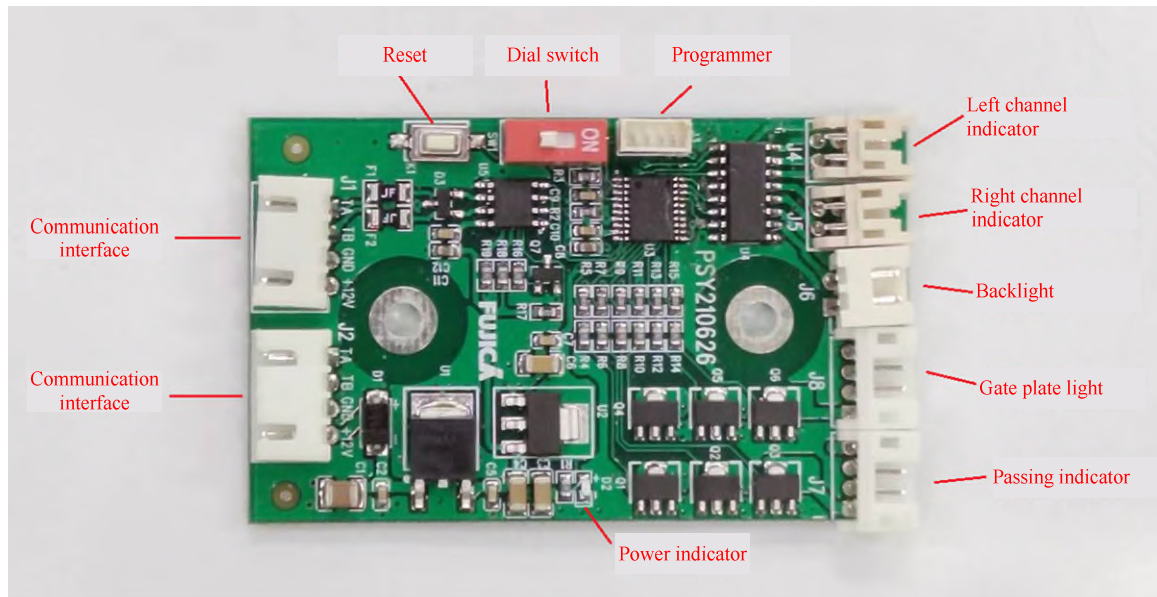

Figure 11
- ① Swipe the card or break in to test if the speaker sounds;
- ② Turn the adjustable resistor on figure 11 to test if there is any change in volume.
- (7) Detection of pedestrians going through the gate